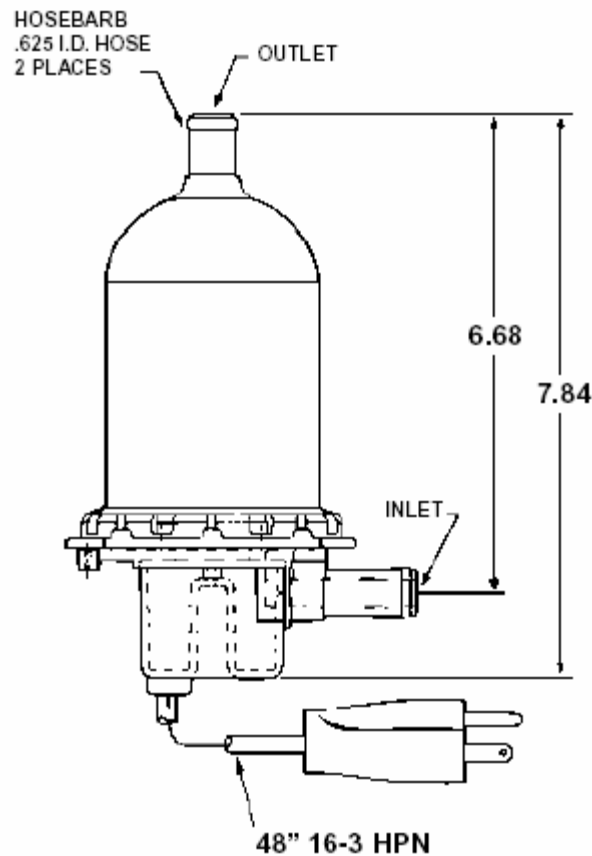

Figure 3-15
D.17. General A 1500-watt, 120-VAC, 60-Hz electric heater is installed in the jacket water system (**figure 3-15**) on each main diesel engine.